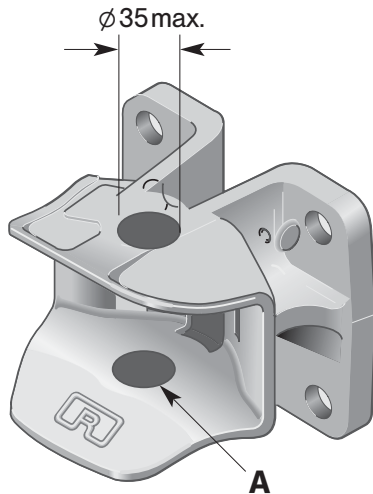

Fig. 4
- To reduce the wear and tear on the trailer coupling, lubricate the contact surfaces of the towing eye (**A**) and the locking pin with multipurpose grease at regular intervals (see Fig. 4).